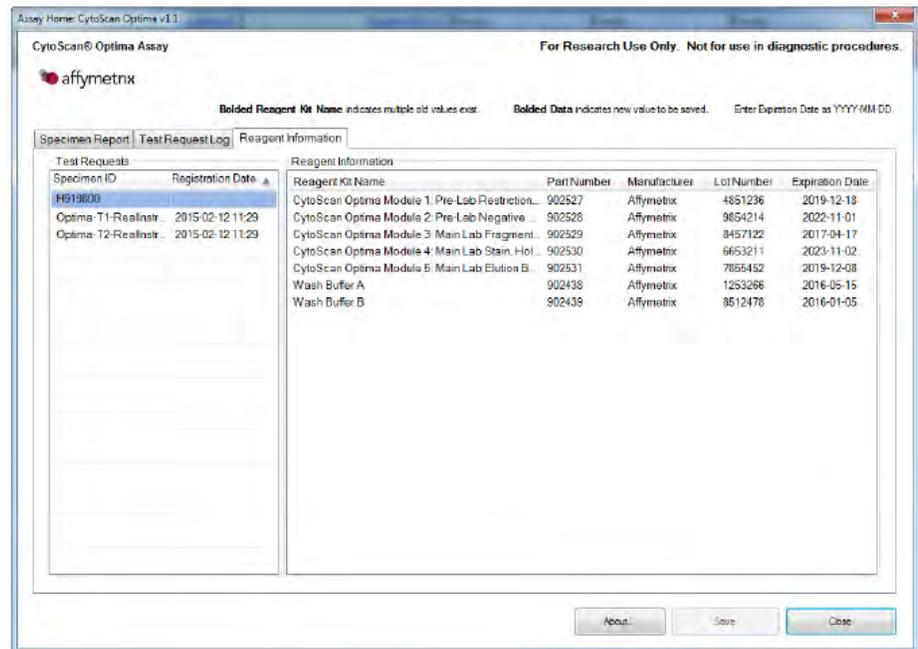

Figure 13 Reagent Information tab
2. Click the **Reagent Information** tab (Figure 13) to view current reagent information.